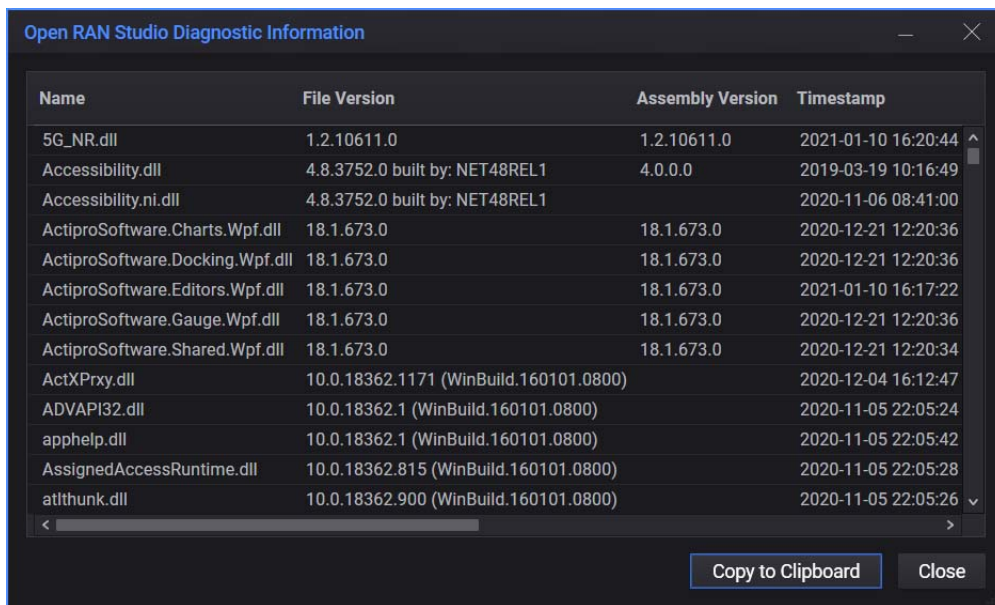

Figure 57 O-RAN Studio Diagnostic Information window
- **Modules...** - Opens “Open RAN Studio Diagnostic Information” window that displays all loaded DLL files. See Figure 57.